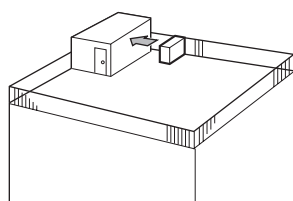

Fig. 2-3
- ① Face the air outlet towards the nearest available wall about 50 cm (19-11/16") away from the wall. (Fig. 2-3)